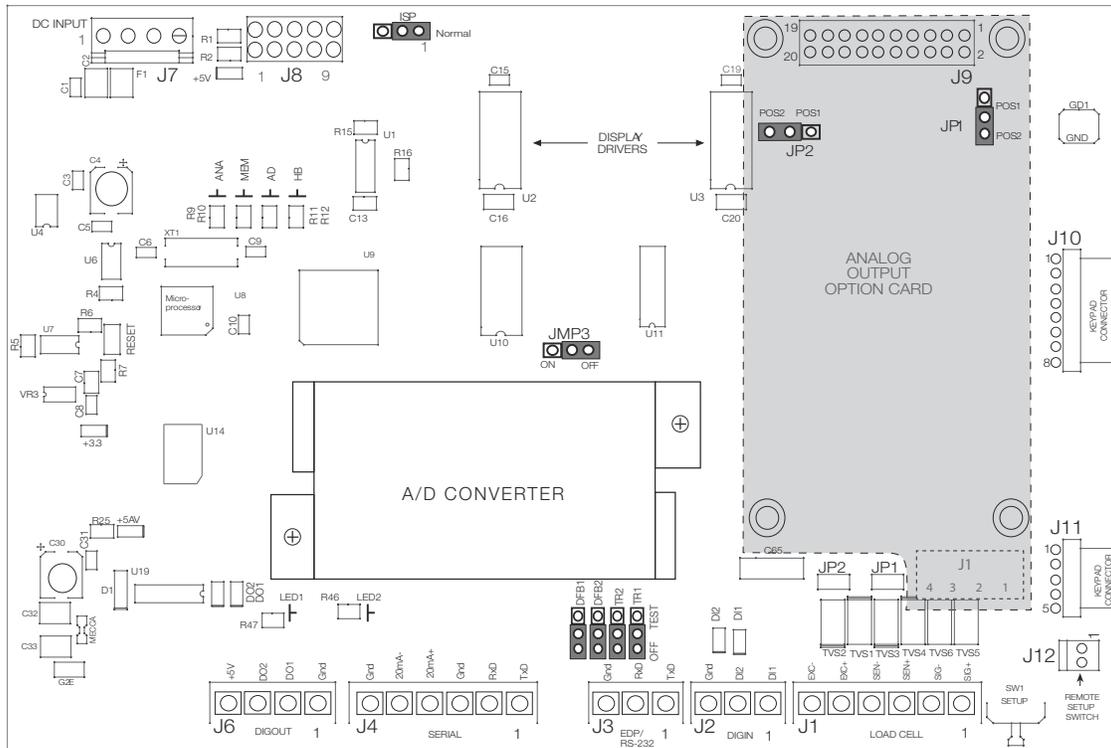

Figure 5-2. 420 CPU and Power Supply Board with Analog Output Option Card
Once cables are attached, reconnect J3 and J4 to the headers on the board (see Figure 5-2). Use cable ties to secure serial cables to the inside of the enclosure.
4. Unplug connectors J1 (load cell cable), J2 (digital inputs), J3 (EDP/RS-232), J4 (serial communications), J6 (digital outputs), and J10 & J11 (keypad ribbon cables). If an analog output board is installed, disconnect the analog output cable. See Figure 5-2 on page 22 for connector locations.